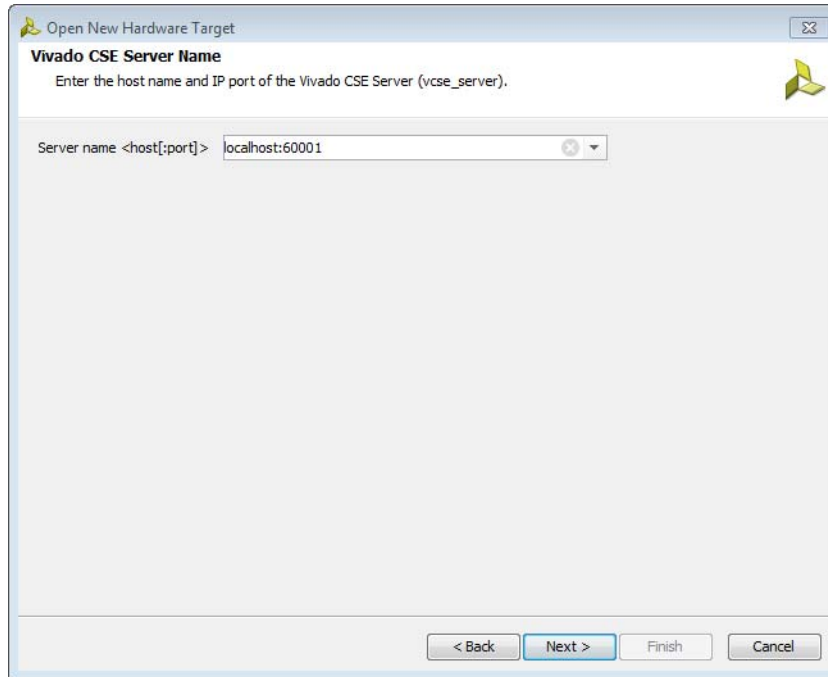

Figure 2-4: Specifying the Vivado CSE Server Name
1. Specify or select the host name and port of the Vivado CSE server (also called `vcse_server`) that is managing the hardware targets on the machine to which the target board is connected (see Figure 2-4).